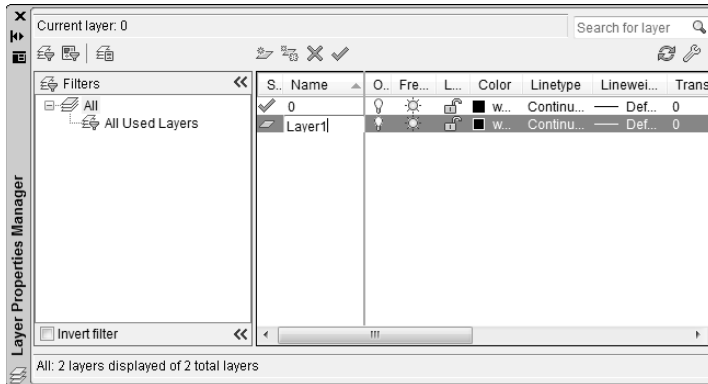

Figure 3-4:
AutoCAD adds a new layer to the list and gives it the default name Layer1 (see Figure 3-4).
10. Click Close (the “X” at the top-left corner of the palette in Figure 3-4) to close the Layer Properties Manager palette.